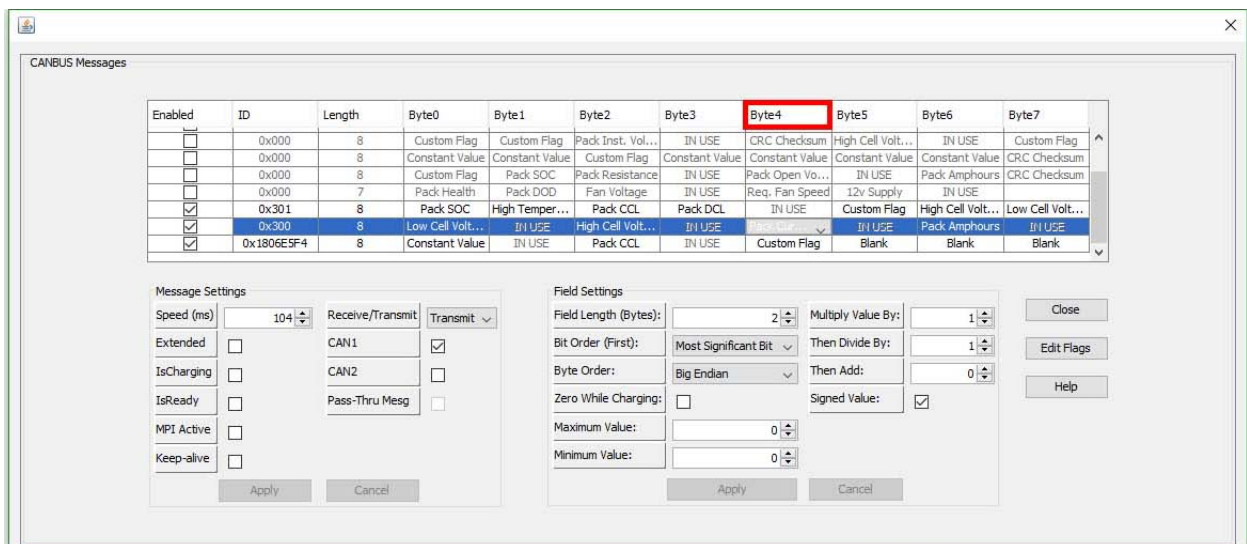
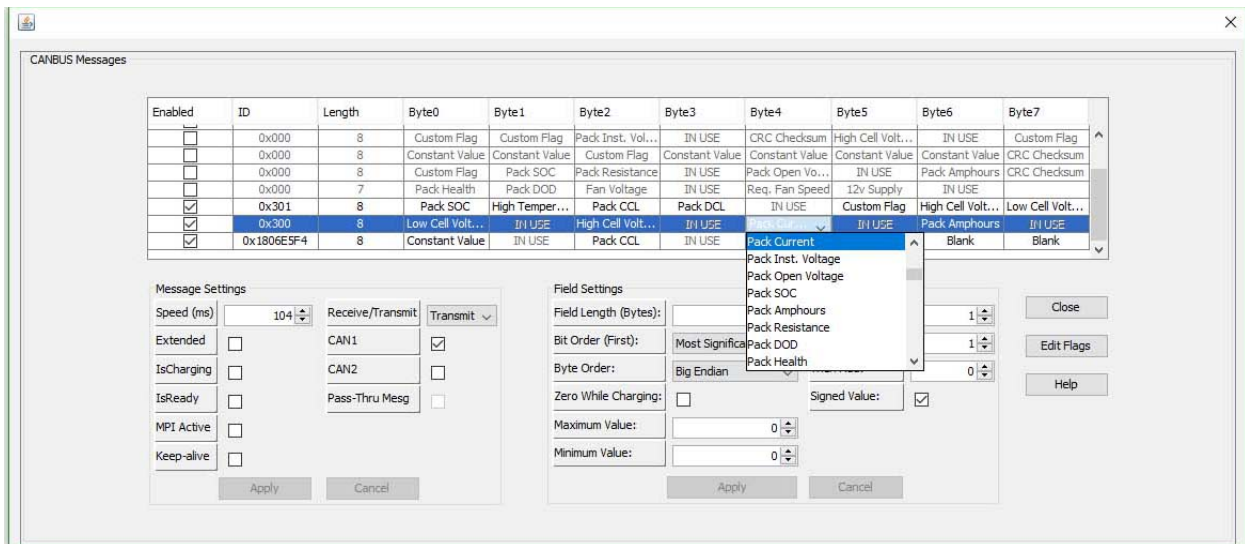

Fig. 12
Fig. 13
- The following is the settings for **Pack Current**. The Bytes used are Byte4 and Byte5 in message 0x300. In the dropdown menu for Byte4 make sure that **Pack Current** is selected. (Fig. 12 Fig. 13)